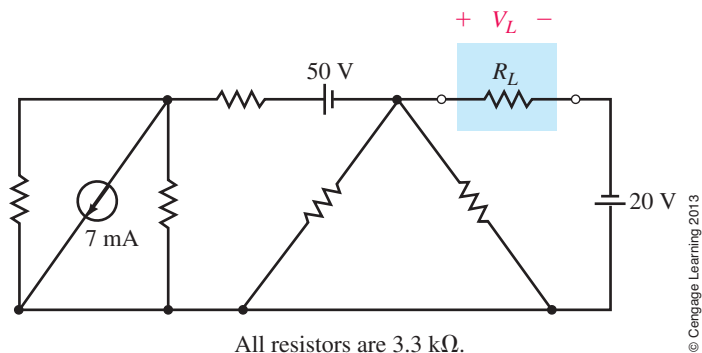

FIGURE 9-88
14. Refer to the circuit of Figure 9-88: